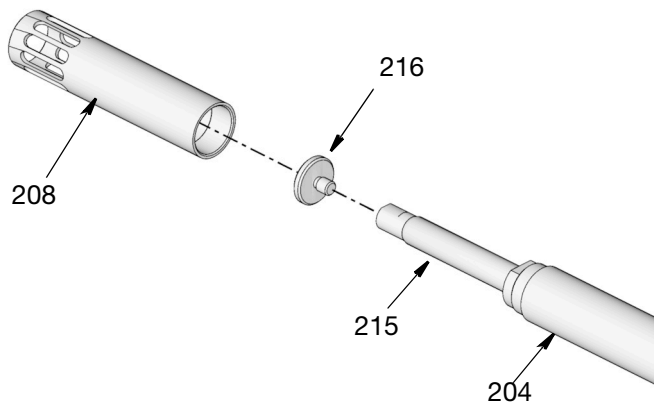

FIG. 44
HP Pump: Thread the shovel piston (216) to the end of the priming rod (215). Use a socket wrench on the piston (216) and a wrench on the flats of the priming rod (215) to securely tighten the shovel piston (FIG. 44). Torque to 145 to 155 in-lb (16 to 17 N•m).
- a. Thread the shovel piston (216) to the end of the priming rod (215). Hand tighten.
- b. Tighten the nut using a socket wrench on the nut (219) and a second wrench on the flats of the priming rod (215), turning in the opposite direction.
17. Thread the shovel cylinder (208) to the pump cylinder (204) (FIG. 44). Use a wrench to tighten securely.